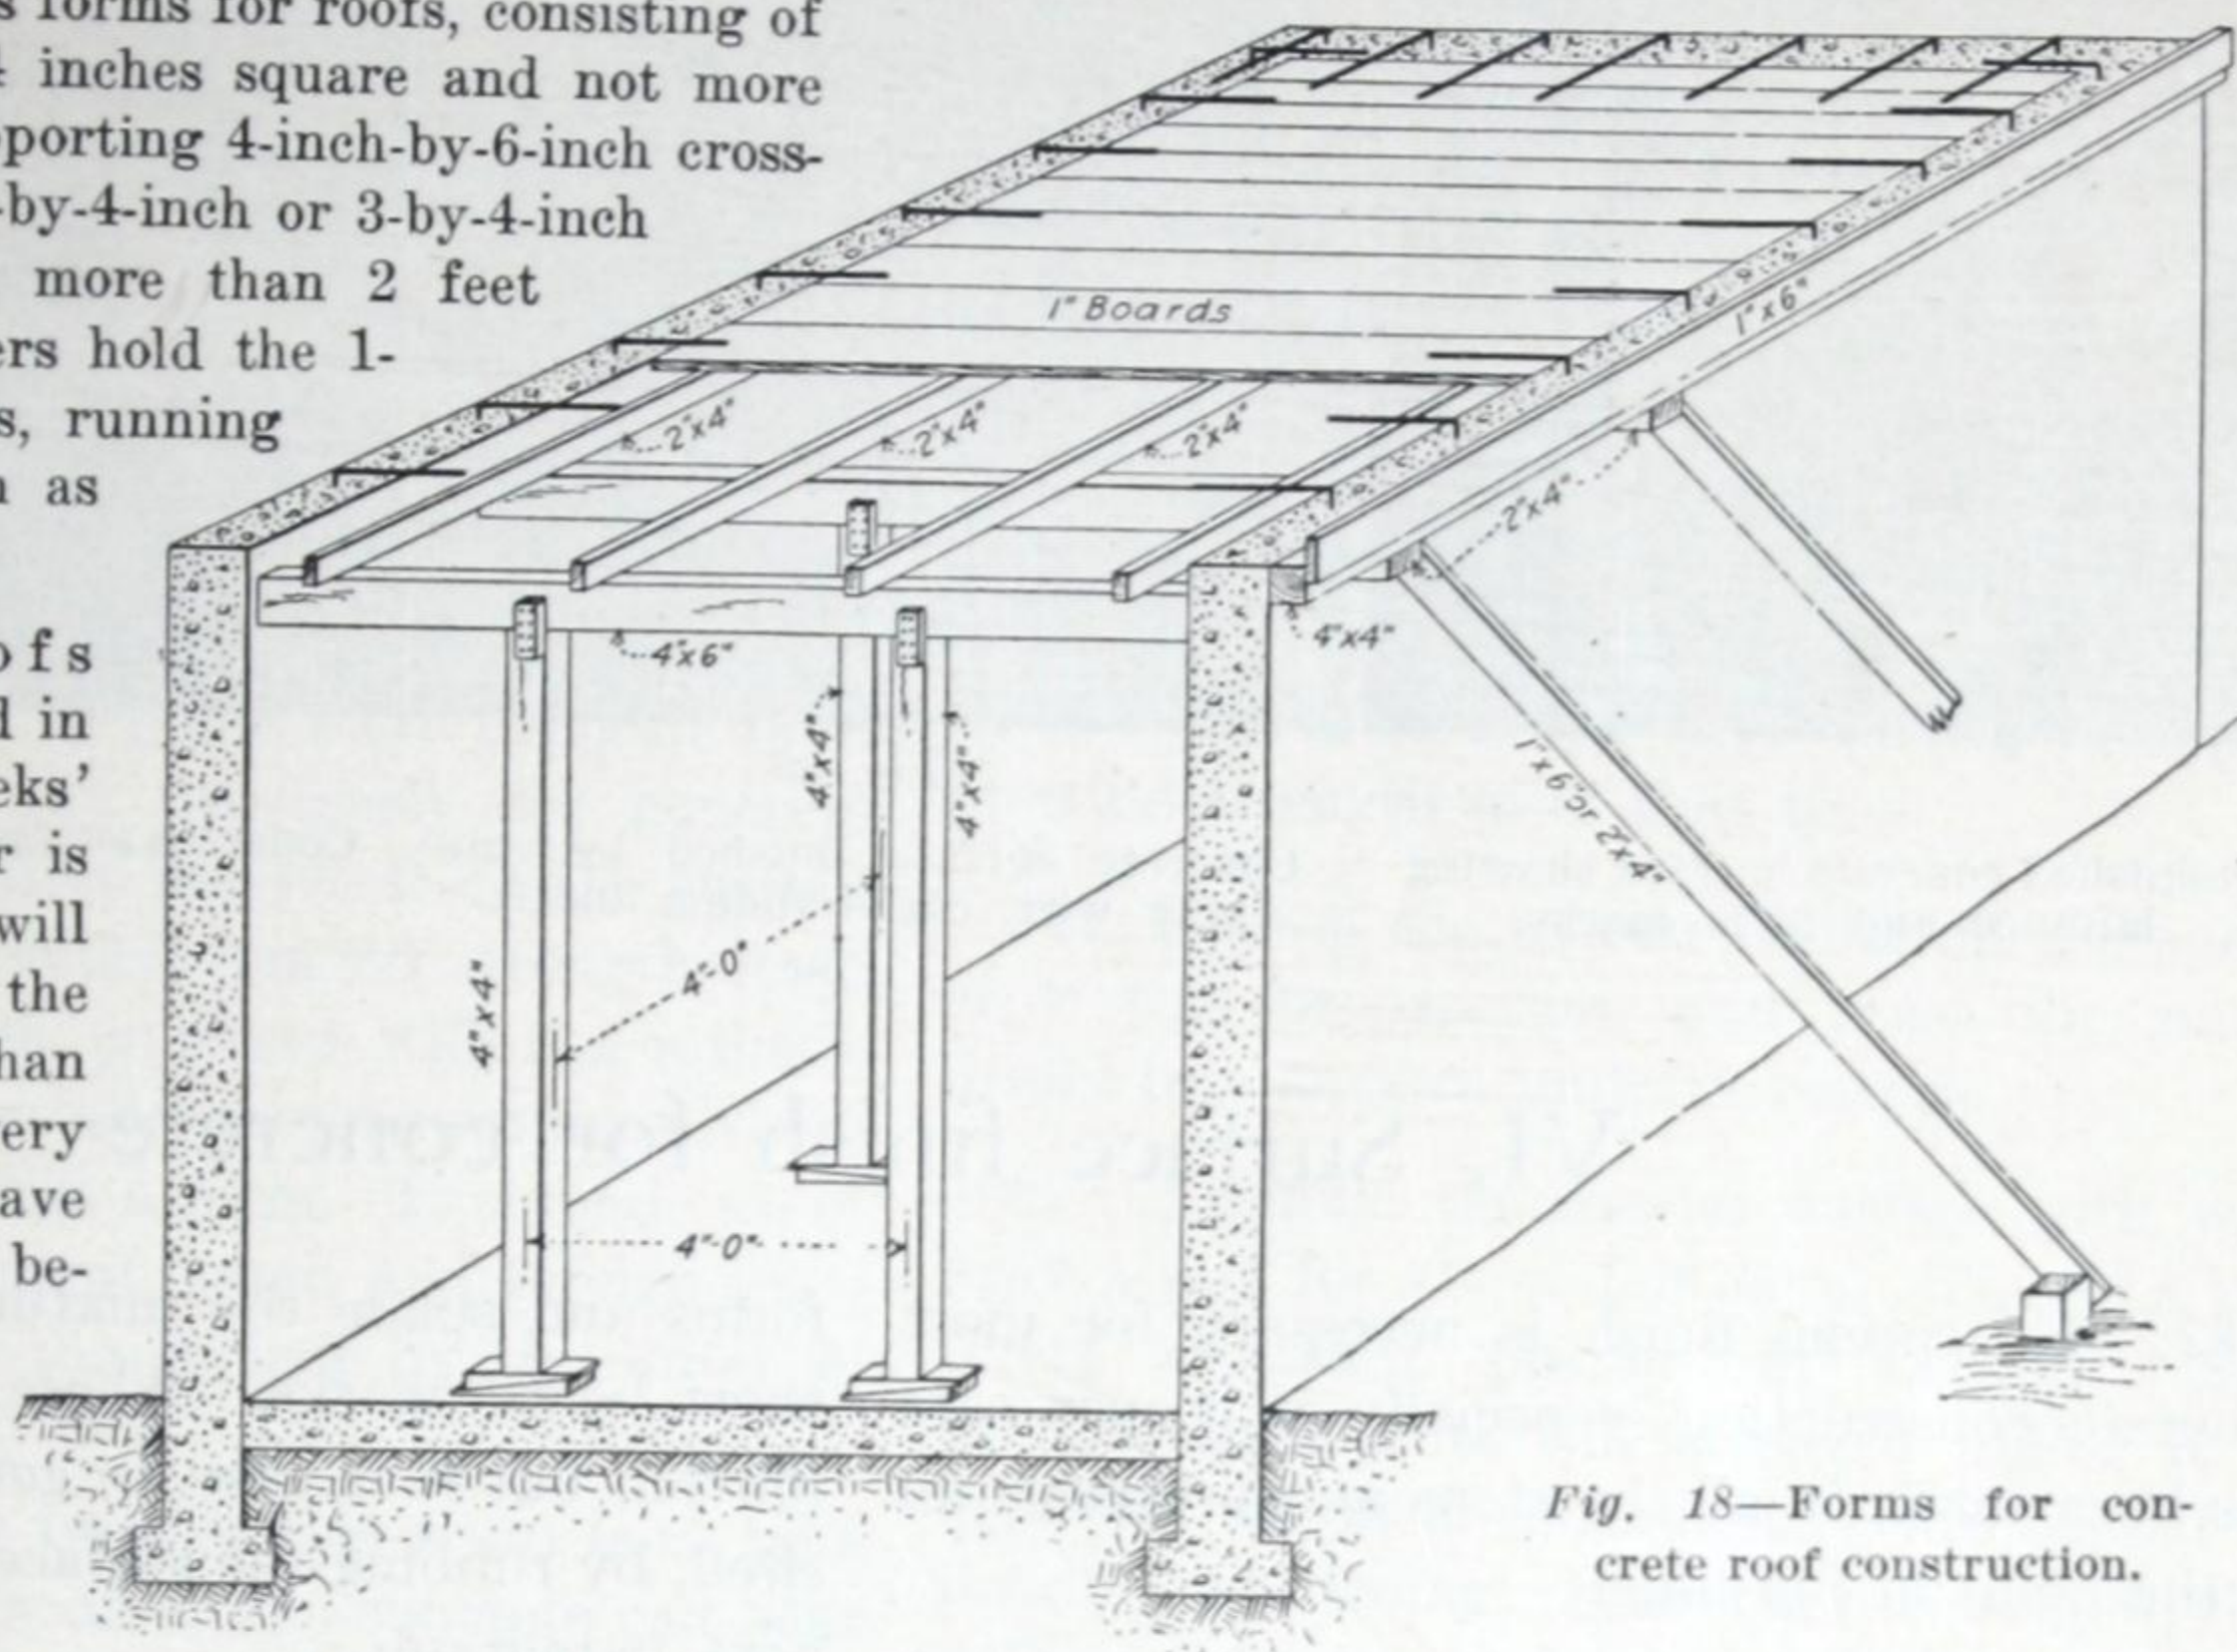

Fig. 18—Forms for concrete roof construction.
76. Figure 18 shows forms for roofs, consisting of upright posts, each 4 inches square and not more than 4 feet apart, supporting 4-inch-by-6-inch cross-pieces, which carry 2-by-4-inch or 3-by-4-inch stringers spaced not more than 2 feet apart. These stringers hold the 1-inch sheathing boards, running in the same direction as the crosspieces.